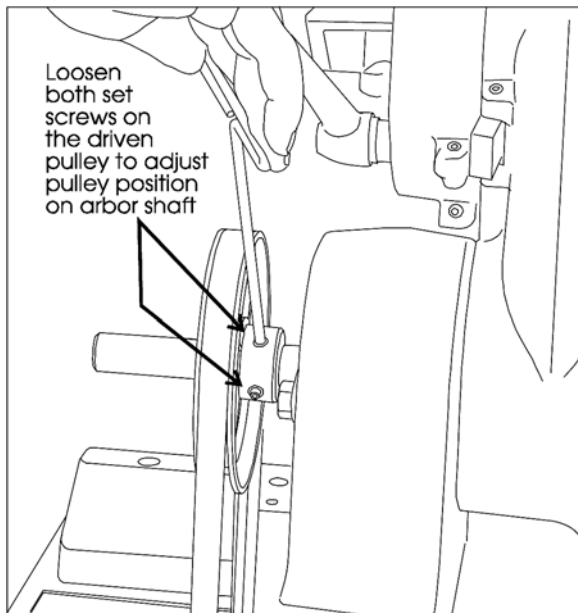

Figure 14: Loosening pulley set screws to allow the adjustment of pulley on arbor shaft.
18. Observe the alignment of the motor pulley and arbor pulley. If necessary, correct their alignment by shifting the motor slightly on its mount (which involves loosening and retightening the mounting bolts and checking tension) or by shifting the pulley slightly on the motor shaft (which involves loosening the motor pulley set screw and sliding the pulley into alignment) or by moving the arbor pulley slightly on its shaft (See Figure 14).